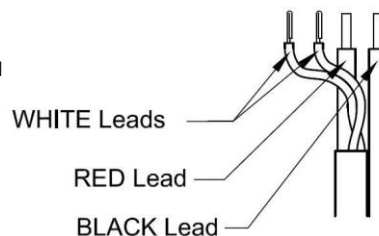

Figure 2 – Connection of battery leads and temp sensor to terminal block.
- 11) Connect the free Positive and Negative terminals of the batteries to the PCB terminals Batt+ and Batt - using the cables provided. See Figure 2.
- 12) If the batteries are housed remotely, replace the battery lead assembly (including battery temperature sensor) with an extended length assembly (Part BAT-LD-T-24-300), Ensure the temperature sensor and battery connections are made according to figure 2.